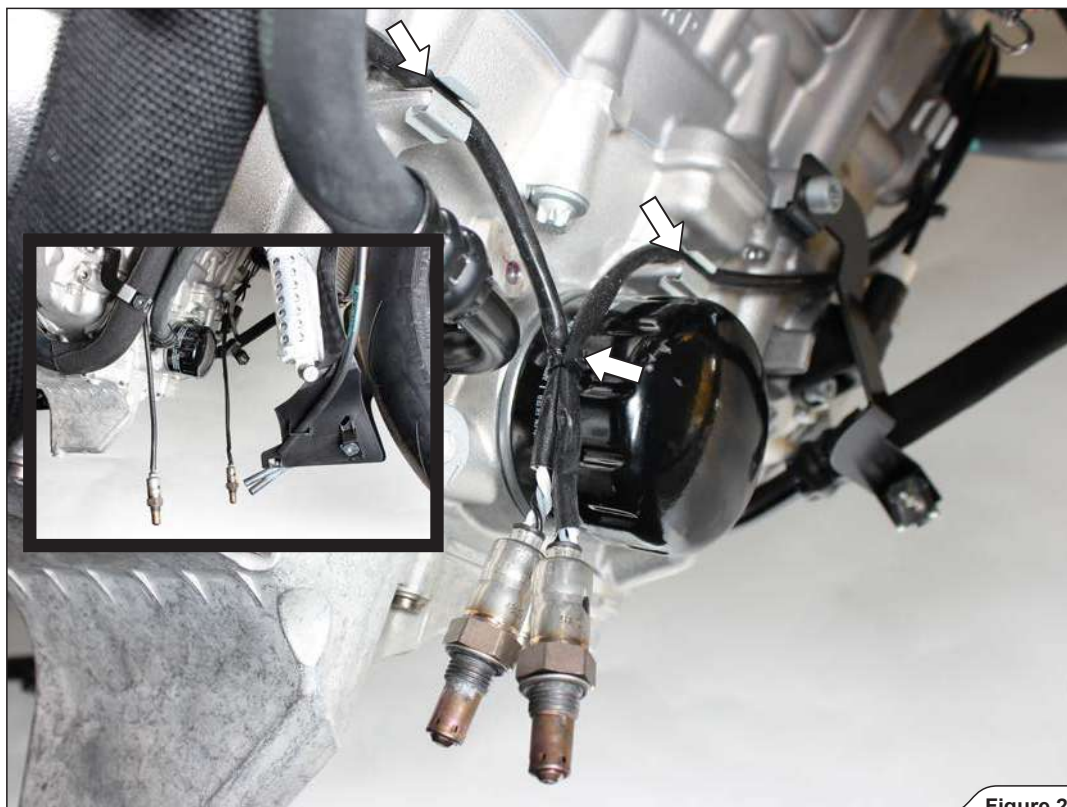

Figure 25
20. Cut the marked zip tie and pull both lambda sensors' cables out of the cable holders (Figure 25).